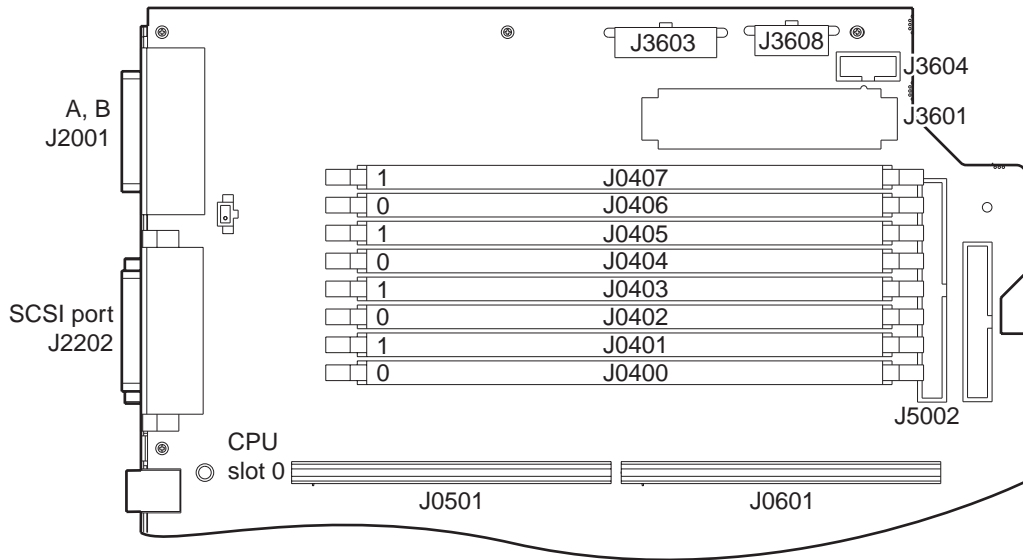

FIGURE 9-5 Memory Banks
6. Continue to fit DIMMs until one or both banks are full (FIGURE 9-5).